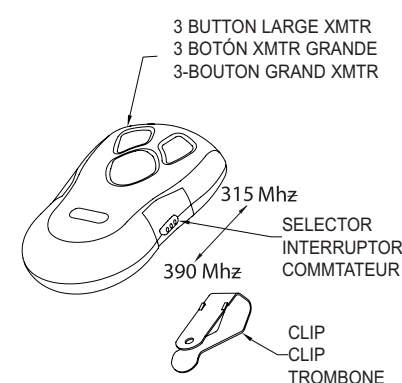

Fig. 2
Step 5-1 Battery replacement **Fig. 2**
The receiver in the GDO's powerhead can receive signals at 315 AND 390 MHz. The remote is factory set at 315 MHz. See Figure 2 for frequency selector switch Settings.